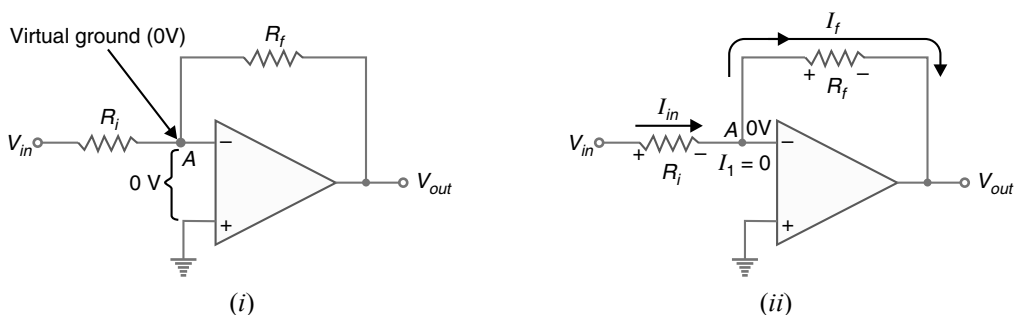

Fig. 23.47
**Voltage gain.** An *OP*-amp has an infinite input impedance. This means that there is zero current at the inverting input. If there is zero current through the input impedance, then there must be *no* voltage drop between the inverting and non-inverting inputs. This means that voltage at the inverting input ( $-$ ) is zero (point *A*) because the other input ( $+$ ) is grounded. The 0V at the inverting input terminal (point *A*) is referred to as **virtual ground**. This condition is illustrated in Fig. 23.47. The point *A* is said to be at virtual ground because it is at 0V but is not physically connected to the ground (*i.e.*  $V_A = 0V$ ).
Referring to Fig. 23.47 (ii), the current  $I_1$  to the inverting input is zero. Therefore, current  $I_{in}$  flowing through  $R_i$  entirely flows through feedback resistor  $R_f$ . In other words,  $I_f = I_{in}$ .
(i) **Input impedance.** While an OP-amp has an extremely high input impedance, the inverting amplifier does not. The reason for this can be seen by referring back to Fig. 23.47 (i). As this figure shows, the voltage source “sees” an input resistance ( $R_i$ ) that is going to virtual ground. Thus the input impedance for the inverting amplifier is